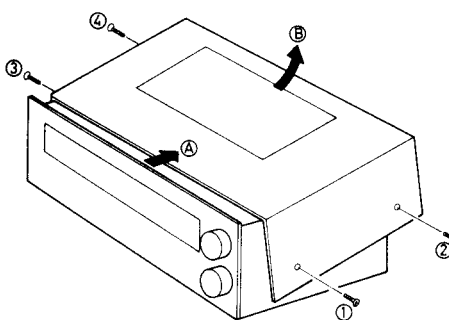

Fig. 7
2. Remove the four cabinet mounting screws (nos ① ~ ④ screws in fig. 7).
3. Sliding it toward (A) direction and lifting it upward (B) direction as shown in fig. 7.